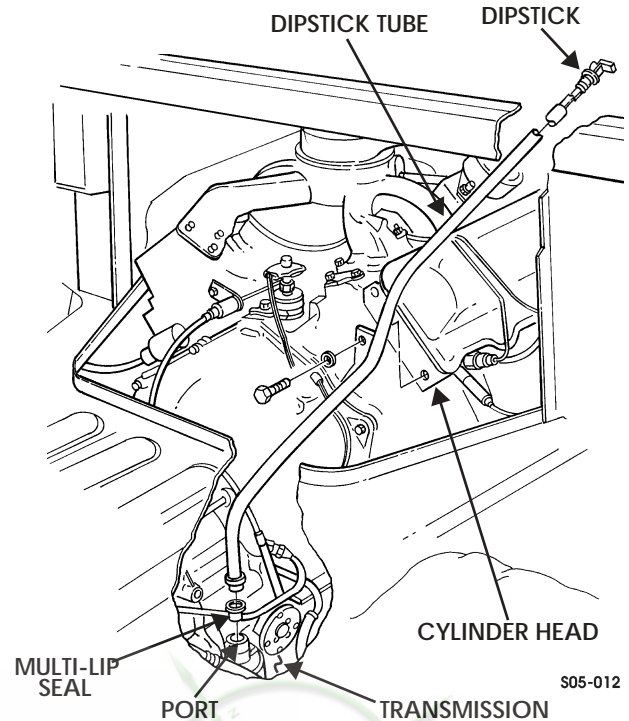

Figure 5-86: Transmission Oil Dipstick Tube
3. Remove capscrew, washer, and dipstick tube from cylinder head (Figure 5-86).
1. Install multi-lip seal in port in transmission (Figure 5-86).